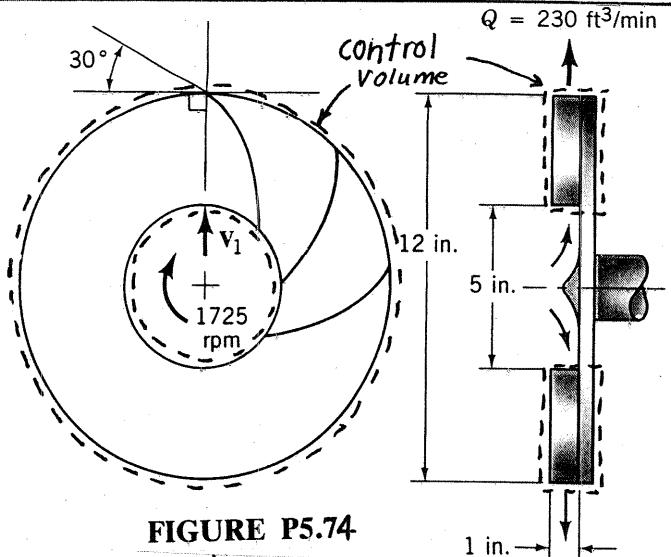

FIGURE P5.74
5.74 A fan (see Fig. P5.74) has a bladed rotor of 12-in.-outside diameter and 5-in.-inside diameter and runs at 1725 rpm. The width of each rotor blade is 1 in. from blade inlet to outlet. The volume flowrate is steady at 230 ft³/min and the absolute velocity of the air at blade inlet, V_1 , is purely radial. The blade discharge angle is 30° measured with respect to the tangential direction at the outside diameter of the rotor. (a) What would be a reasonable blade inlet angle (measured with respect to the tangential direction at the inside diameter of the rotor)? (b) Find the power required to run the fan.